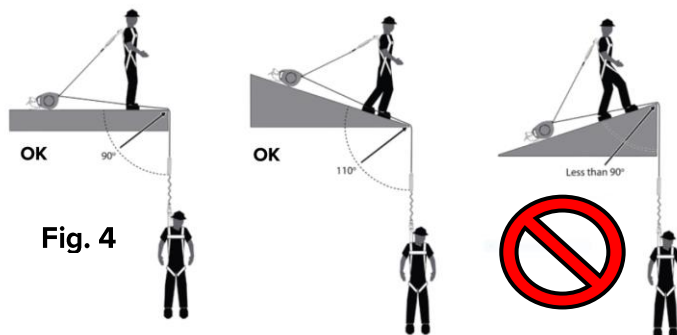
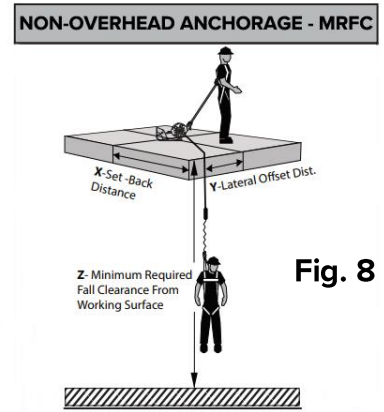

Fig. 4
Fig. 8
7. The SRD may be attached to an overhead anchor (above the harness dorsal D-ring) or a non-overhead anchor (below the harness D-ring). A non-overhead anchor may be as low as foot level. Never use anchorages located below the user's feet. In leading edge applications, do not attach the SRD in a manner that situates the edge higher than the unit. The angle of the lifeline passing over the edge must be 90° or more, never less (Fig. 4). Non-overhead anchorage points are at an increased risk of abrasion hazards due to the increased contact between the lifeline and the edge. Use of a foot level anchorage should be a last resort when no other anchorage option exists. Keep the lifeline between the user and anchorage connection point as close to perpendicular to the unprotected edge as possible.
- The allowable angle of redirection of the lifeline portion of the SRD at the edge over which a fall might occur shall be at least 90° (measured between the two sides formed by the redirected lifeline). (See Fig. 4).
- The anchor point may be situated at the same height as the edge at which a fall may occur or above the edge. Anchor points below the edge are dangerous because they cause the lifeline to redirect at an angle sharper than 90° (see Fig. 4).
- The SRD when used as Self Retracting Lifeline (SRL-LE) may be anchored at foot level but never below (See Fig. 8). The angle of the lifeline passing over the edge must be 90° (See Fig4).